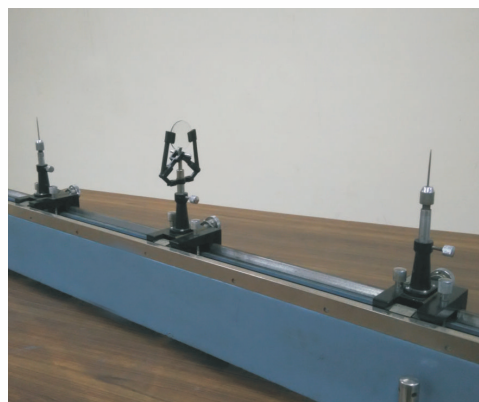

Fig. 6.10: Experimental arrangement for determination of focal length of a convex lens.
2. Refer to Fig. 6.10 which shows how you should mount the lens, the object and the image pins in the uprights on an optical bench.